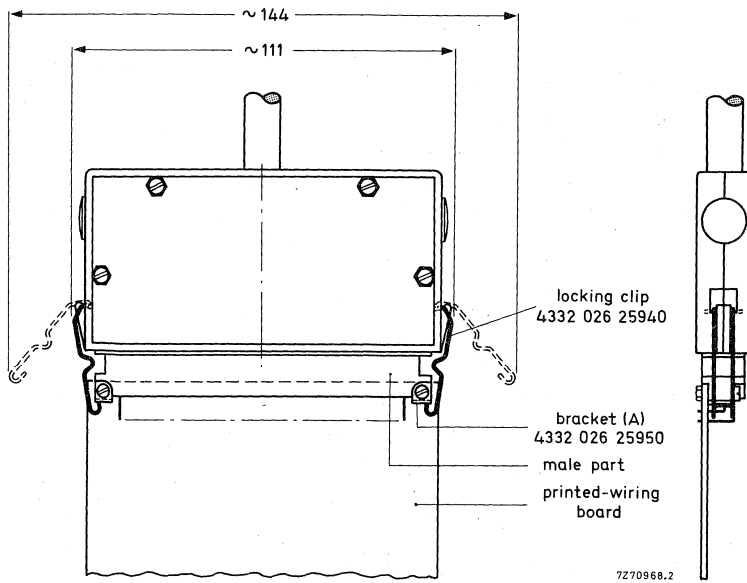

Fig. 44 Cable to printed-wiring board application.
bracket (A), see Fig. 44	25950